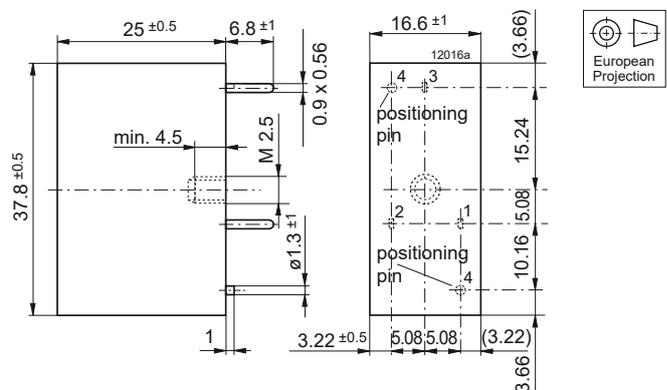

Fig. 21
- Input filters FP; see table 13 and fig. 21.